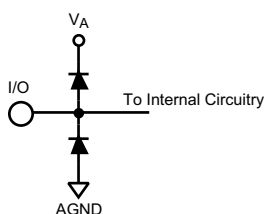

Figure 1.
- (1) The inputs are protected as shown below. Input voltage magnitudes above V_A or below GND will not damage this device, provided current is limited per Note 4 in the Absolute Maximum Ratings table. However, errors in the A/D conversion can occur if the input goes above 2.6V or below GND as described in the Operating Ratings section, see Figure 1.
- (2) With a full scale differential input of $2V_{P,P}$, the 14-bit LSB is 122.1 μV .
- (3) Typical figures are at $T_A = 25^\circ\text{C}$ and represent most likely parametric norms at the time of product characterization. The typical specifications are not guaranteed.
- (4) Integral Non Linearity is defined as the deviation of the analog value, expressed in LSBs, from the straight line that passes through positive and negative full-scale.
- (5) The input capacitance is the sum of the package/pin capacitance and the sample and hold circuit capacitance.
- (2) With a full scale differential input of $2V_{P-P}$, the 14-bit LSB is $122.1\text{ }\mu\text{V}$.
- (4) This parameter is specified in units of dBFS - indicating the value that would be attained with a full-scale input signal.
- (4) I_{DR} is the current consumed by the switching of the output drivers and is primarily determined by load capacitance on the output pins, the supply voltage, V_{DR} , and the rate at which the outputs are switching (which is signal dependent). $I_{DR} = V_{DR}(C_0 \times f_0 + C_1 \times f_1 + \dots + C_{13} \times f_{13})$ where V_{DR} is the output driver power supply voltage, C_n is total capacitance on the output pin, and f_n is the average frequency at which that pin is toggling.
- (1) The inputs are protected as shown below. Input voltage magnitudes above V_A or below GND will not damage this device, provided current is limited per Note 4. However, errors in the A/D conversion can occur if the input goes above 2.6V or below GND as described in the Operating Ratings section. Figure 1
- (2) With a full scale differential input of $2V_{P.P}$, the 14-bit LSB is $122.1\text{ }\mu\text{V}$.